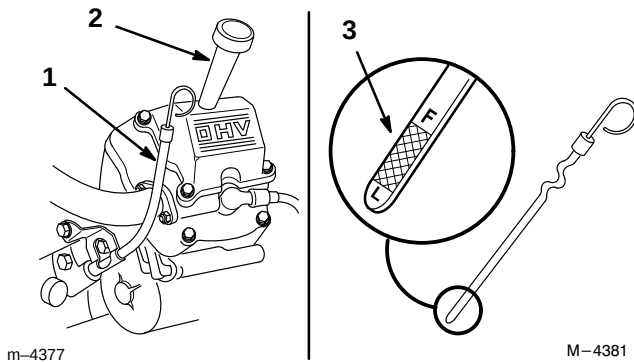

Figure 23
2. Clean around the oil dipstick so dirt cannot fall into the filler hole and damage the engine (Fig. 23).
3. Pull the oil dipstick out and wipe the metal end clean (Fig. 23).
4. Slide the oil dipstick fully into the filler tube. Pull the dipstick out and look at the metal end (Fig. 23). If oil level is low, slowly pour only enough oil into the filler tube to raise the level to the “FULL” mark.
5. Slowly pour approximately 80% of the specified amount of oil specified, page 37, into the filler tube (Fig. 23). Now check the oil level; refer to Checking Oil Level, page 38. Slowly add additional oil to bring to “FULL” mark on dipstick.